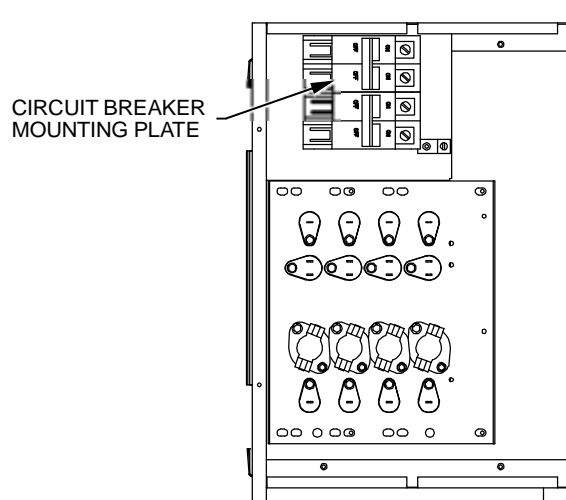
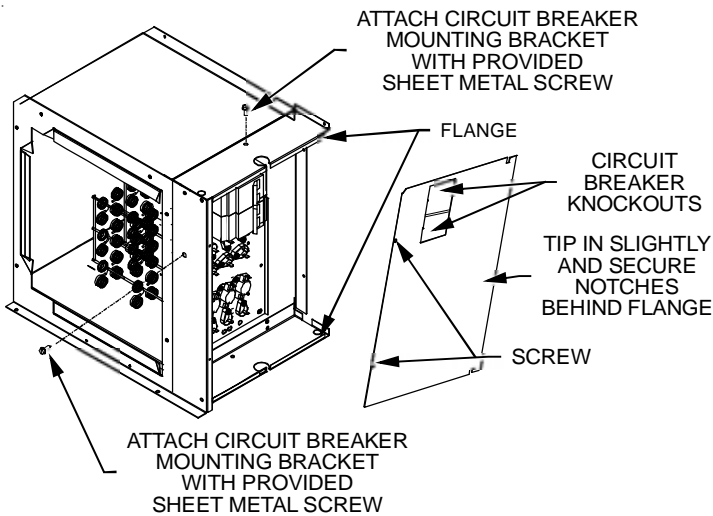

FIGURE 2
FIGURE 3
8. Attach the circuit breaker mounting bracket inside the top left corner of the electric heat kit box (Figure 2). Ensure the breaker is oriented with OFF position to the left. Remove the two (2) sheet metal screws prior to installation and re-attach as shown in Figure 3.
NOTE: To replace the electric heat kit cover, slightly tip the cover and insert only the notches under the flanges on the top and bottom of the box. Secure with screws. See Figure 3.